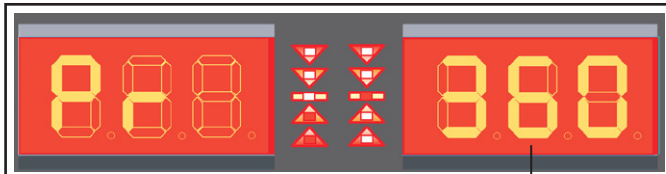

Fig. 43
- Press key  repeatedly to select the type of PAX correction (see Par. 14.4). Then press key . The selection of the PAX wheel size will be displayed on the dimensions display screens (see Fig. 43).